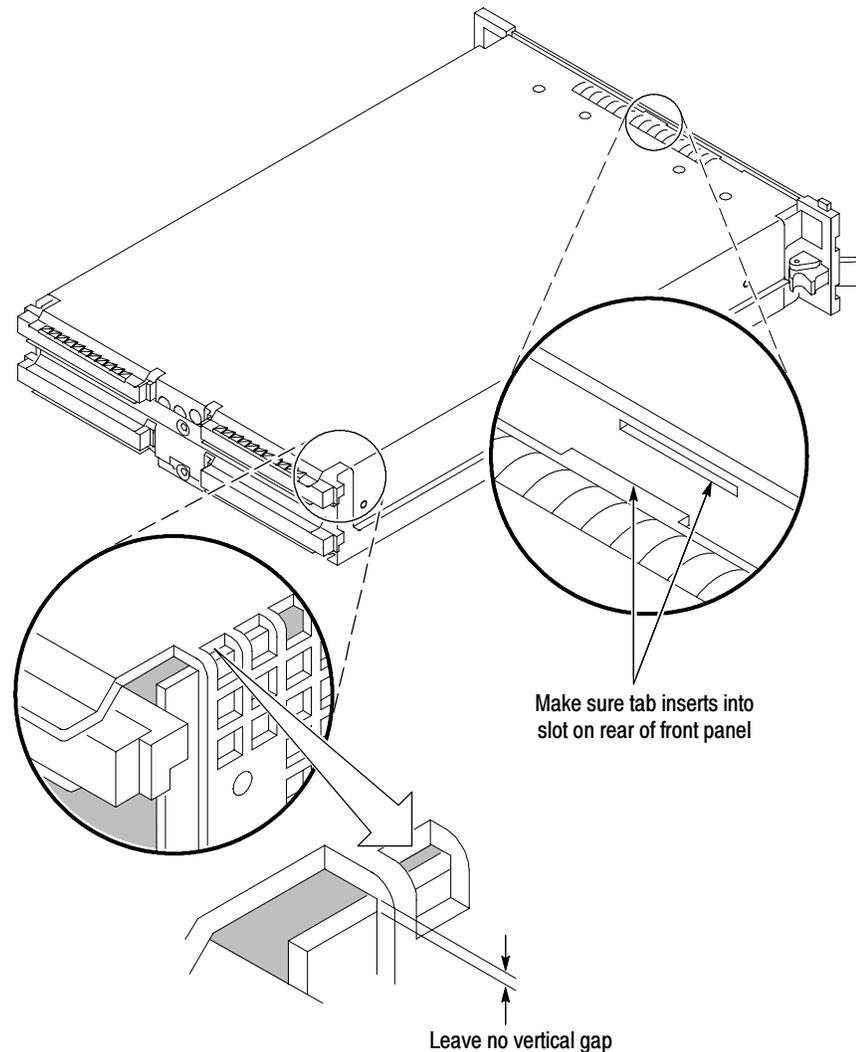

Figure 23: Seating the cover on the chassis
6. Push forward on the cover so that you insert the tab on the front edge of the cover into the rear of the front subpanel. Make sure that the cover is fully seated and there are no gaps between the front and rear chassis flanges; refer to Figure 23 on page 35.